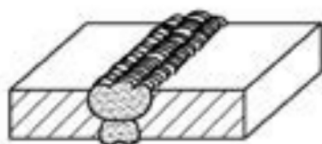

Fig. 1: Cross section of a typical weld bead. Figures courtesy of the authors unless otherwise noted.
**A**ccording to the international surface preparation standard for welds (ISO 8501-3, "Preparation of steel substrates before application of paints and related products — Visual assessment of surface cleanliness — Part 3: Preparation grades of welds, edges and other areas with surface imperfections"), the preparation grades before paint application are divided into three levels: P1, P2 and P3 (Fig. 1). These grades are described with rough qualitative representations instead of with descriptions of surface treatment methods or measurable conditions. Because of the ambiguous wording in the standard, there have been a lot of arguments about surface